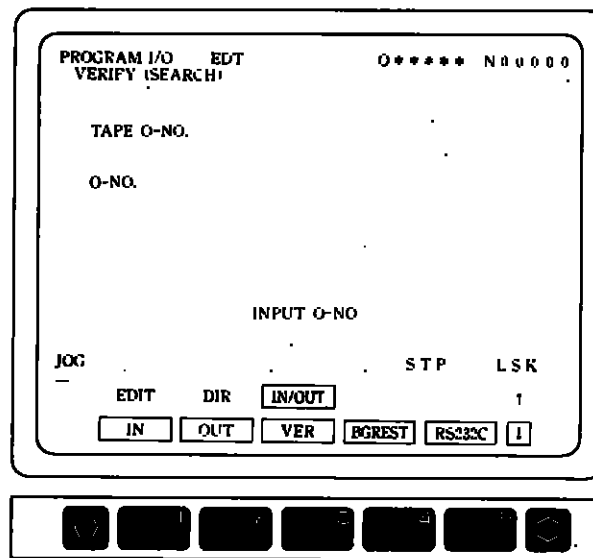

Fig. 3.4.49 SRCH Verification Screen
- 1 The SRCH verification screen shown in Fig. 3.4.49 appears.